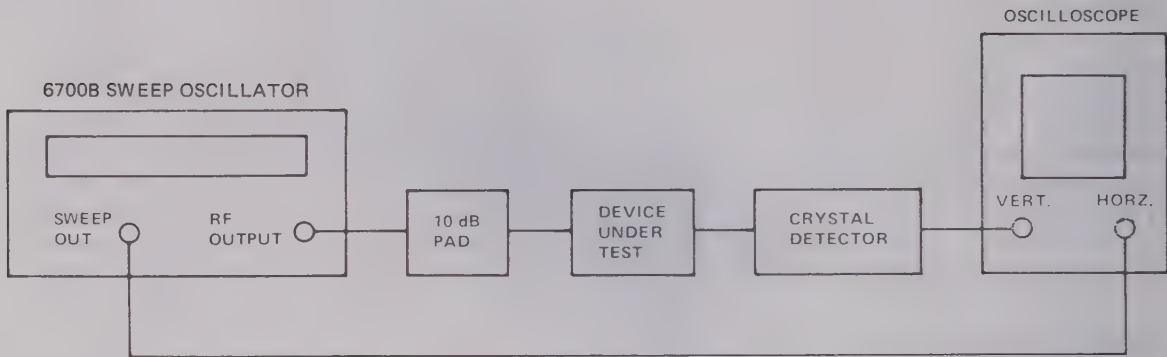

Fig. 3 Swept frequency measurement test set-up using an oscilloscope display
44. For rapid evaluation or adjustment of a device under test, the oscilloscope is generally the most convenient display method. A simple set-up using a broadband crystal detector, a pad and an oscilloscope is illustrated in Fig. 3.